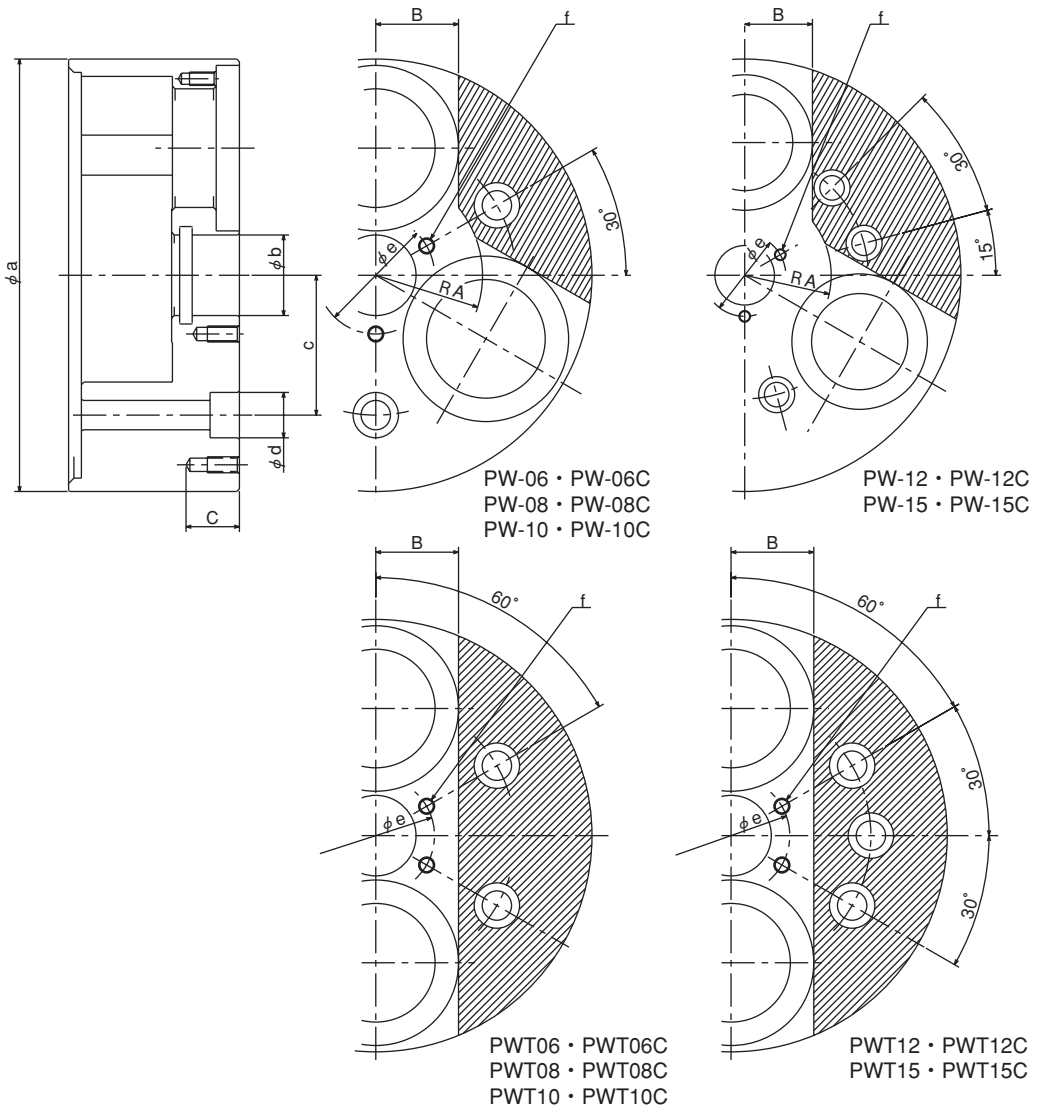

Fig. 16
- In the case of attaching the locator and the jig on the chuck body surface, tap or drill a hole in the additional process range specified in Fig. 16